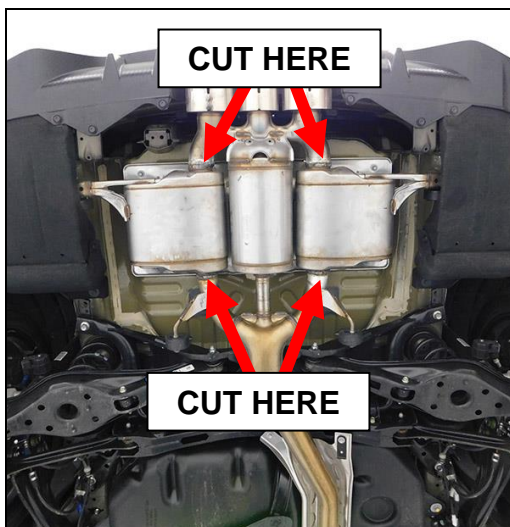

Figure 1
1. Measure from before the weld on the inlet side (engine side) of the muffler to after the weld on the outlet side (tip side) of the muffler and make a mark at each location 11-1/4" apart (**Figure 1**).